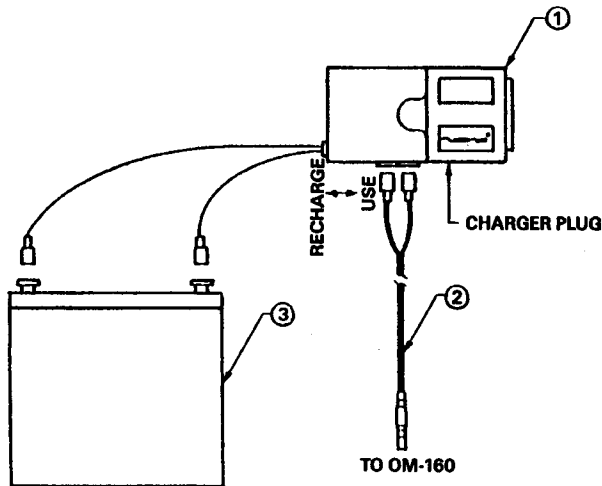

Figure 8-1. RR-130 Components and Proper Hook-Up of the RR-130 Recharger System
The OMEGA® RR-130 Rechargeable Battery Pack is comprised of three components: a recharger circuit assembly, an interface cable to the OM-160 Data Logger, and a 4 Volt 9 AH sealed rechargeable battery. These are identified in Figure 8-1 as items 1, 2, and 3, respectively. Figure 8-1 illustrates the proper hook-up of the recharger system.